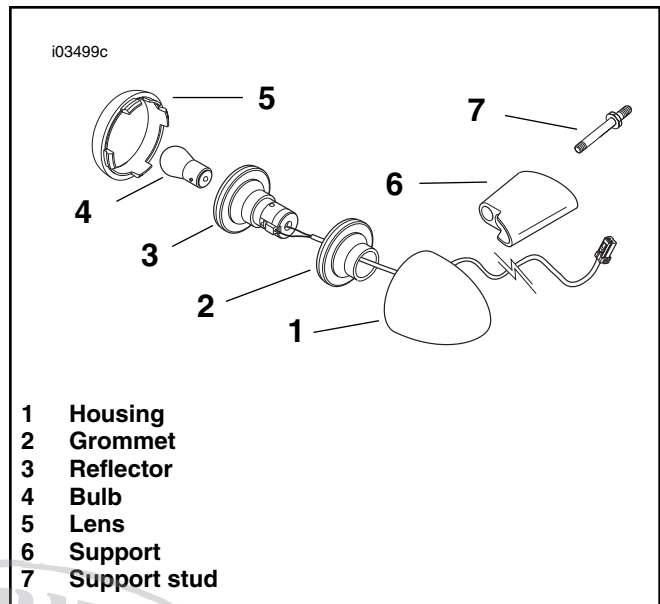

Figure 2. Rear Turn Signal (Sportster shown)
- See Figure 2. Remove the lens (5) from the rear turn-signal housing (1).
- Carefully pry the reflector (3) and grommet (2) from the housing (1). Gently pull the wires out from the unthreaded housing hole.
- Remove the support (6), and fasteners.